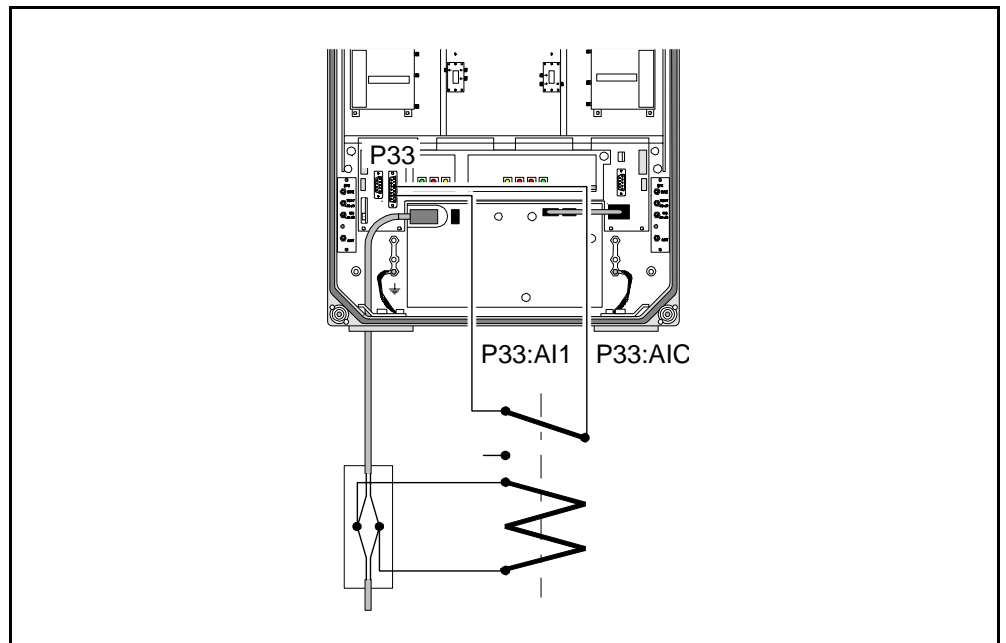

Figure 3-9. Mains breakdown relay connection
- Connect a currentless closed relay contact to pin AI1 and AIC on the P33 alarm connector see Figure 3-9. Alarm is initiated by short circuiting pin AI1 and AIC in the P33 connector. The P33 alarm connector is detailed on page 3-12.